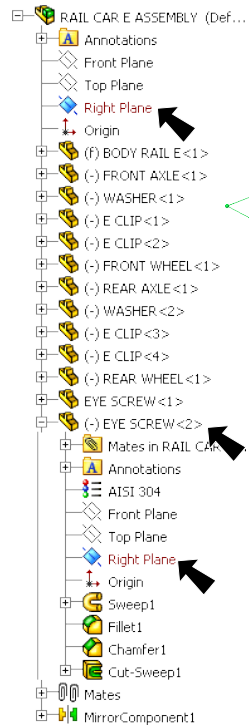

Fig. 62
Step 22. Click **Right Plane** , **Fig. 62.**
Step 23. Expand **EYE SCREW2** and click **Right Plane** , **Fig. 62.**
Step 26. Click Zoom to Fit  (F) on the View toolbar.